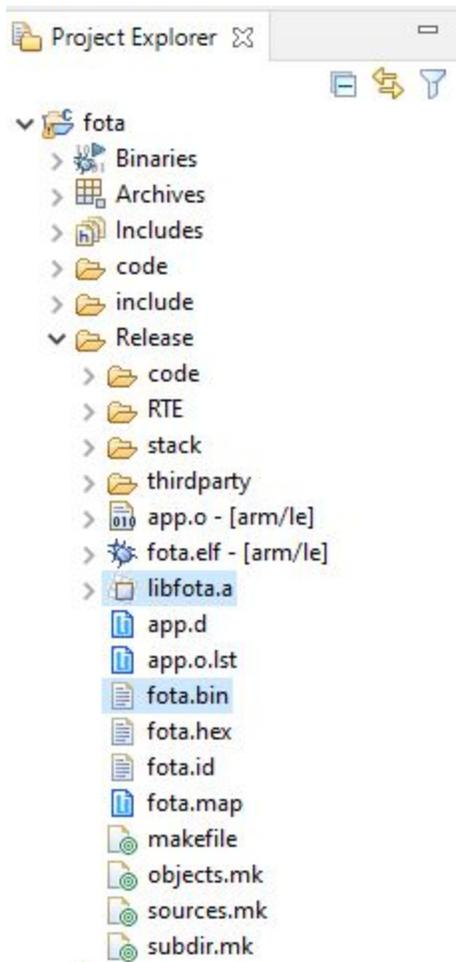

Figure 14. Building the Project
3. Build the project. After building successfully, *libfota.a* and *fota.bin* are generated under the *Debug* or *Release* folder, as shown in the "Building the Project" figure (Figure 14).